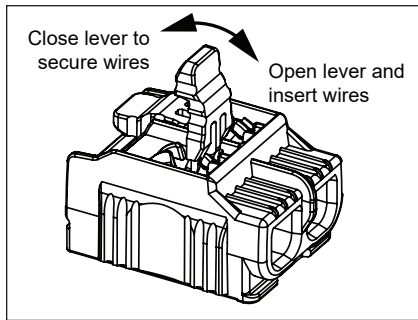

Figure 50 - Lever Wire Connector Operation
Locate one (1) lever wire connector provided in the kit and join the power cord's black wire and the water heater's black wire. Confirm connections are secure and tight (see Figure 50).
Locate one (1) lever wire connector provided in the kit and join the power cord's white wire and the water heater's white wire. Confirm connections are secure and tight (see Figure 50).